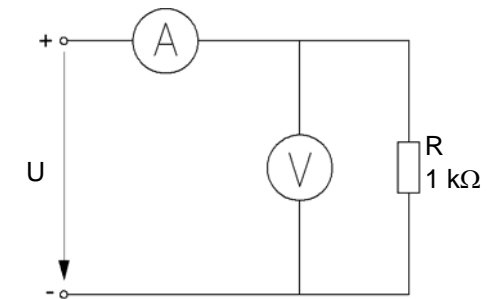

Fig. 1.6.1.1: Recording the characteristic $I = f(U)$
- Assemble the exercise on the Board (Fig. 1.6.1.1). Connect the outputs of the Variable DC Voltage to the inputs of your circuit. When connecting the test instruments, pay attention to the correct polarity. First, insert the plug-in resistor $R = 1 \text{ k}\Omega$.